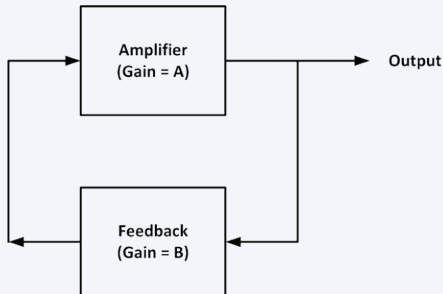

Figure 1: Oscillator principle.
A sinusoidal oscillator consists of an amplifier and a feedback network (**Figure 1**). The following two conditions must be satisfied to have a working oscillator:
- the loop gain ($A \times B$) in Figure 1 must be greater than or equal to unity;